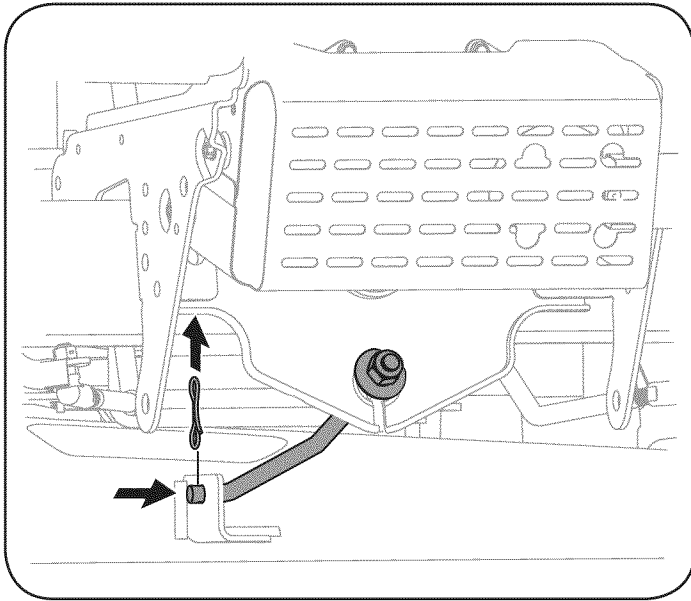

Figure 20
- Remove the bow-tie cotter pin securing the deck stabilizer rod to the deck. Slide the deck lift rod from the mounting bracket on the deck as shown in Figure 20.
- Carefully remove the PTO cable from the rear of the cutting deck by removing the bow-tie cotter pin which secures it. Remove the spring from the deck idler bracket. See Figure 20.